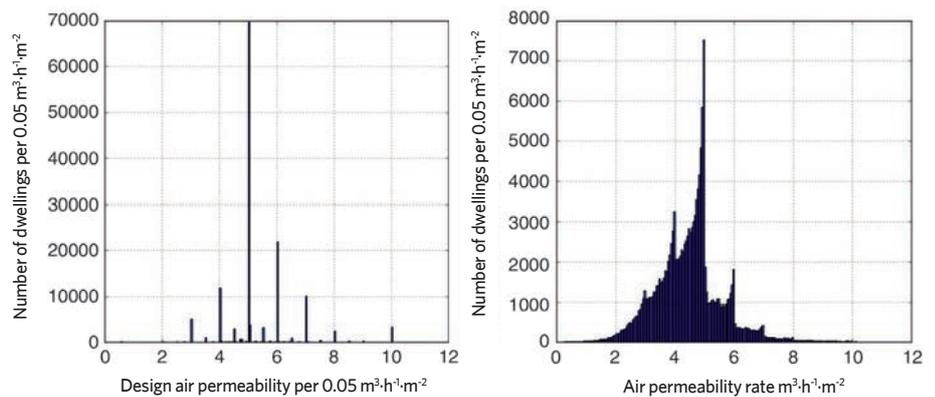

Figure 1: Design and measured air permeability for dwellings in the ATTMA dataset
A 2017 study2 of the ATTMA test results by the paper's authors found evidence that a proportion of homes was being made airtight while being tested, as there were very precise achievements of targets for a high number of dwellings (see Figure 1). 'This suggests the existence of a combined process of sealing and measurement, where sealing can stop as soon as the design target is reached,' said the authors. The ATTMA test standard places strict limitations on the amount of sealing that can take place during a test.
**Figure 1:** A good-practice example of how to show data in stacked histogram format to illustrate differences in ventilation control perceptions between window and non-window seats. All statistics are given for total clarity. Note that spatial differences can lead to skewed or flat (non-normal) distributions. This is not a failing, rather a normal characteristic of occupant perceptions. An understanding of what the data is saying requires the researcher to have a full grasp of the building's physical context